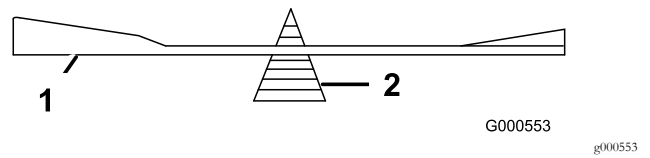

Figure 53
2. Check the balance of the blade by putting it on a blade balancer (Figure 53).